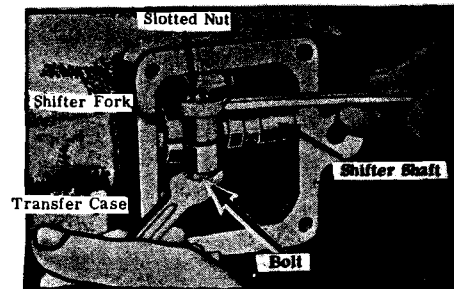
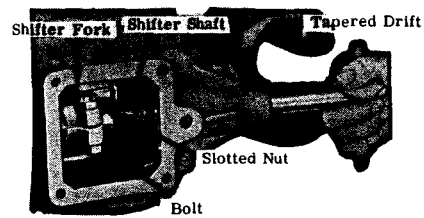

Figure 9. Loosening Shifter Fork Bolt
Figure 10. Removing Shifter Shaft
- (2) Remove the cotter pin and loosen the slotted nut and bolt that secures the shifter fork to the shifter shaft (fig. 9). Screw the shifter shaft out of the shifter fork (fig. 10). Lift the shifter fork out of the transfer case and slide the shifter shaft from case.